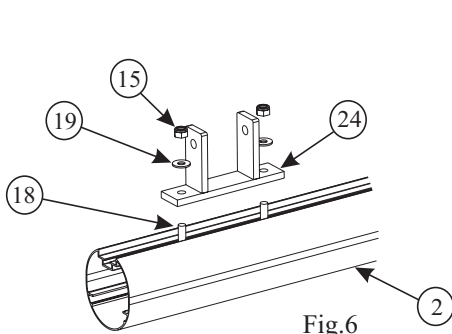

Fig.6
Fit the Bottom Hinge Bracket (24) 59mm from the bottom of the post, using the two remaining bolts in each upright. Only secure one nut as this part will need to be tweaked when attaching to the Bottom Sidebar. As shown in Fig 6.